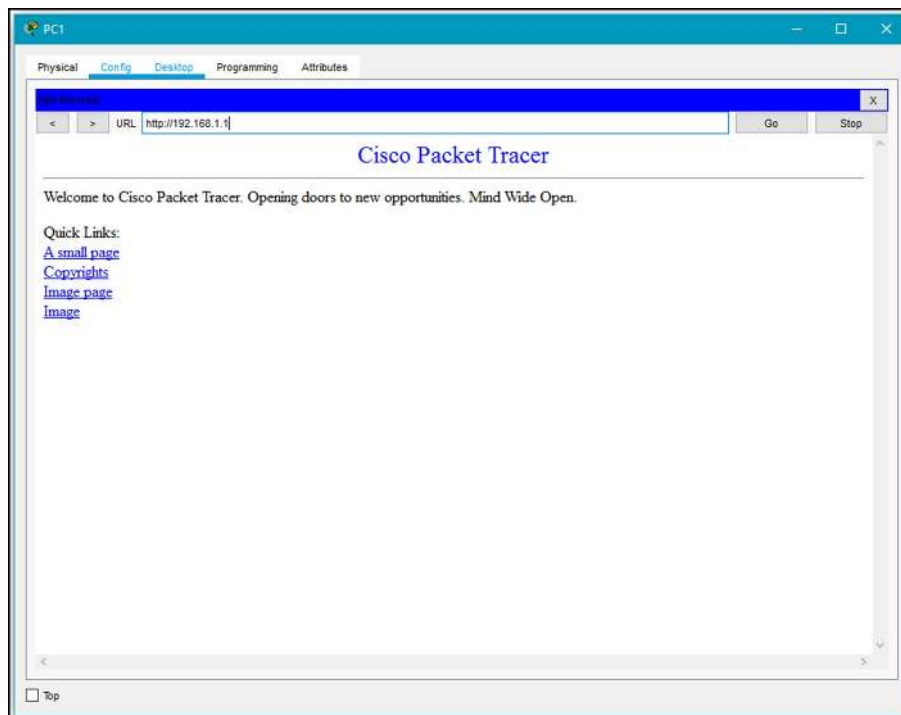

Figure 3.5: Testing the Server's Web Page via PC1
- Type 192.168.1.1 in the URL field and click [Go]. You may see the server's default page (as in Figure 3.5) if the server is hosting a default site.